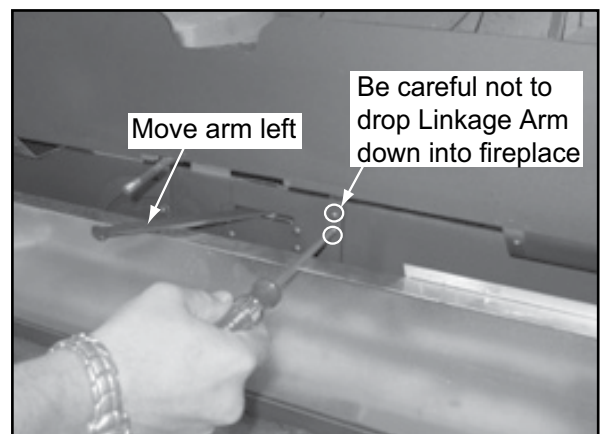

Figure 36.6
5. Remove 2 screws from timer linkage upper arm. Be careful NOT TO DROP arm in bottom of fireplace. Figure 36.6.
11. Attach the linkage upper arm to the lower linkage arm. Figure 36.6 on page 36.